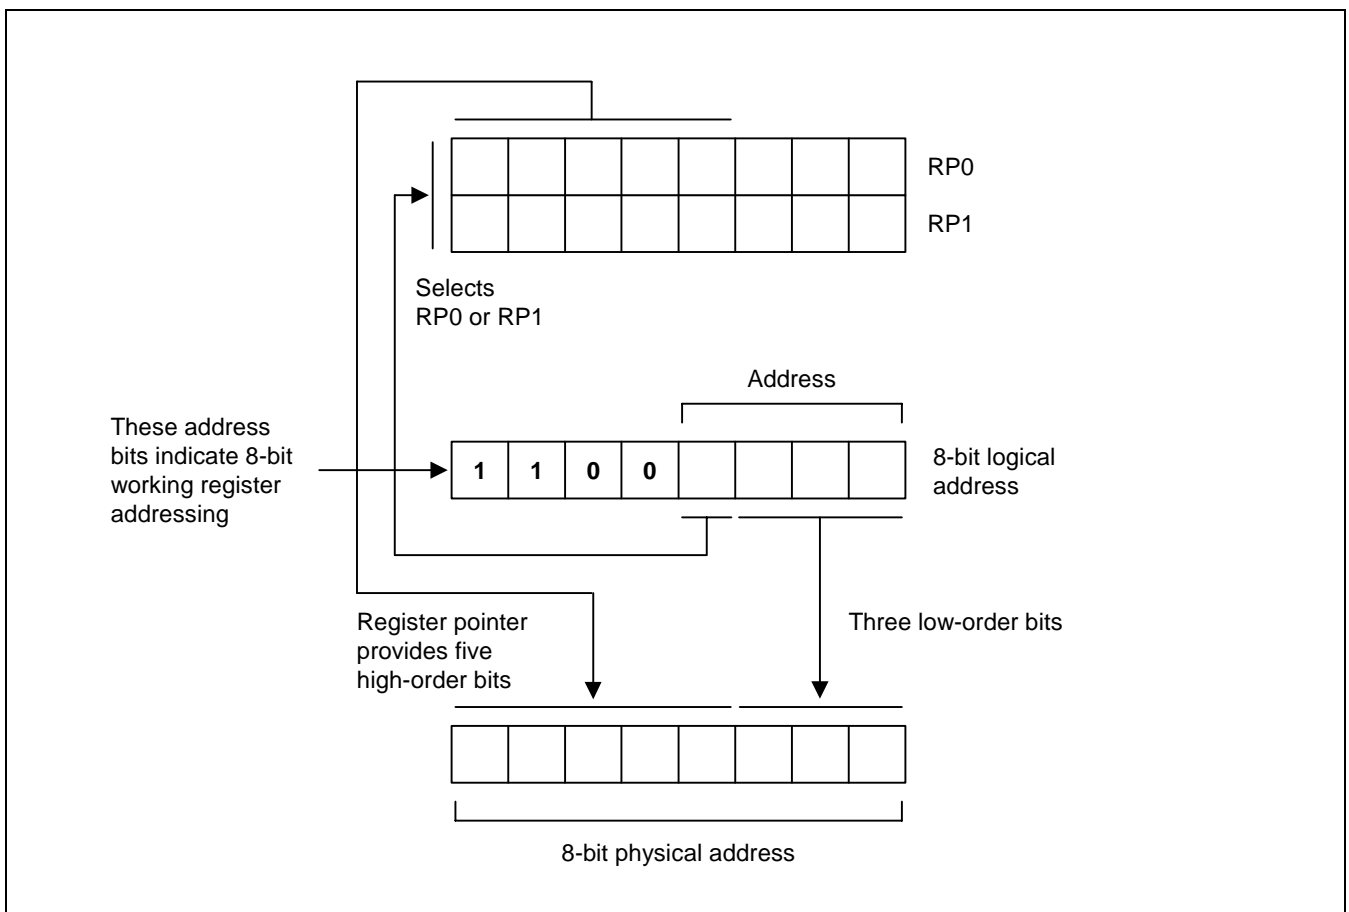

Figure 2-14. 8-Bit Working Register Addressing
Figure 2-14 shows an example of 8-bit working register addressing. The four high-order bits of the instruction address (1100B) specify 8-bit working register addressing. Bit 3 ("1") selects RP1 and the five high-order bits in RP1 (10101B) become the five high-order bits of the register address. The three low-order bits of the register address (011) are provided by the three low-order bits of the 8-bit instruction address. The five address bits from RP1 and the three address bits from the instruction are concatenated to form the complete register address, 0ABH (10101011B).